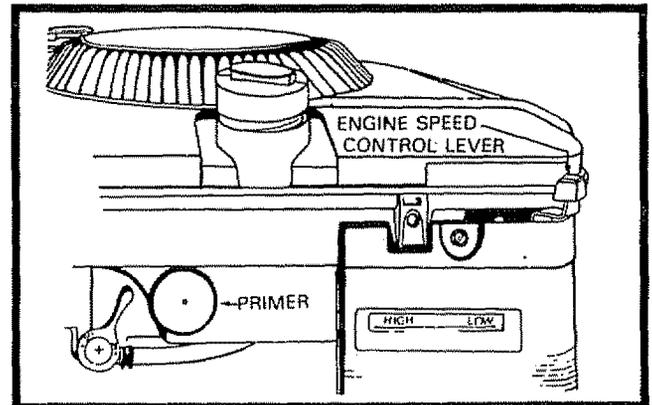

FIG. 6
The engine speed is controlled by a lever (red knob) located on the right side of the engine (See Fig. 6).
- Speeds 1 and 2 are found when the Engine Speed Control (red) Lever is set between "HIGH" and "LOW" positions (See Figs. 6 & 7).
- Speeds 3 and 4 are found when the Engine Speed Control (red) Lever is in "HIGH" position (See Figs. 6 & 7).